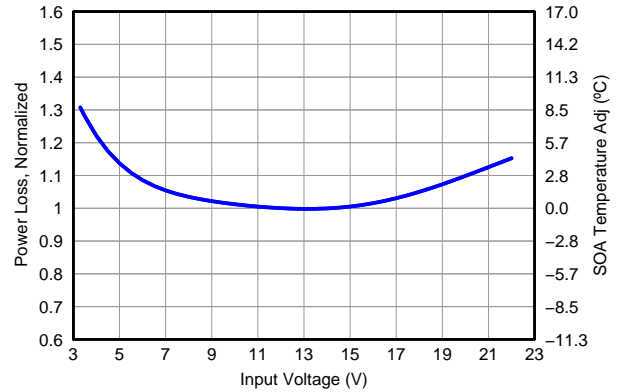

Figure 13. Normalized Power Loss vs Input Voltage
- Normalized Power Loss for input voltage  $\approx$  1.05 (Figure 13)
- SOA adjustment for input voltage  $\approx$  1.4°C (Figure 13)